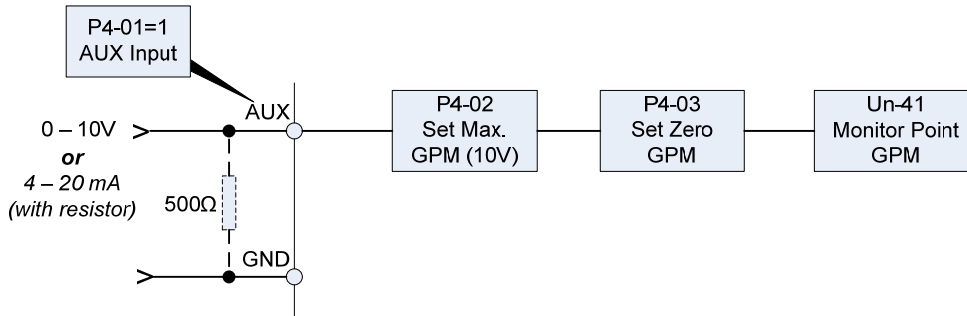

Fig. 9.2.4.11 Flow Meter Function with AUX Input
- Fig. 9.2.4.11 below is a diagram of the flow meter function when Flow Meter Selection P4-01 is set to =1 (AUX input).